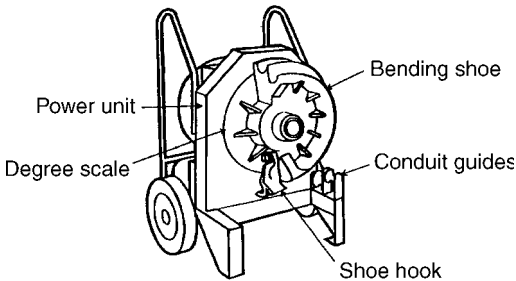

FIGURE 1-2. Electric bender.
**Electric Bender.** An electric bender can handle large rigid-steel and aluminum conduit easily. Bending shoes are sized to fit the conduit. Figure 1-2 shows a typical electric bender with different shoes and support rollers for various sizes of conduit.